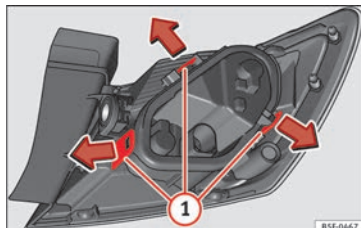

Fig. 113 Retaining tabs on reverse side of tail light.
- Remove the bulb holder » **Fig. 113** unlocking the retaining tabs **①**.